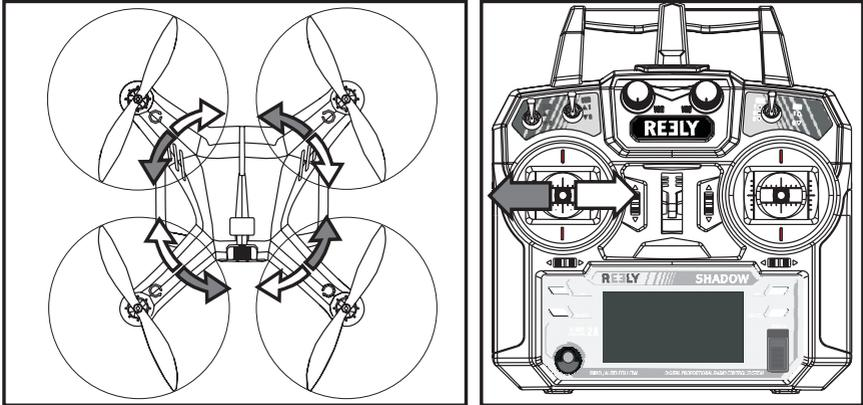

Figure 19
If the control stick for the yaw function (also see figure 7, item 16) is moved to the left, the electronics in the model will increase the speed of the propeller turning to the right (clockwise) and at the same time reduce the speed of the propellers turning to the left (counter-clockwise). This way, the entire lift force remains the same, but only one torque acts on the model, which turns the quadcopter around its vertical axis to the left (see figure 19).